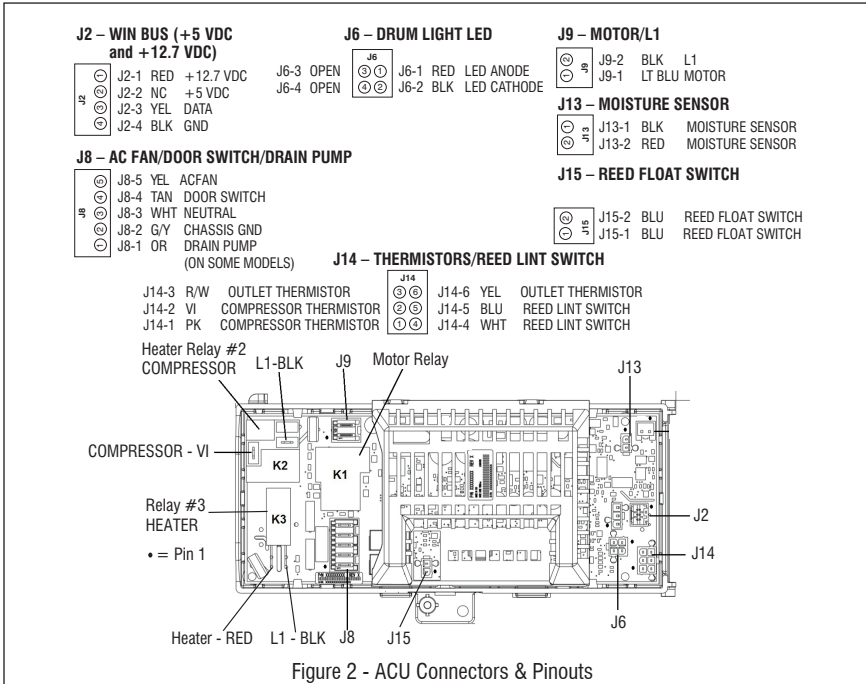

Figure 2 - ACU Connectors & Pinouts
5. **ACU VAC** – With voltmeter set to **AC**, connect black probe to ACU J8-3 (N) and red probe to J9-2 (L1) (see Figure 2). Plug in dryer or reconnect power.